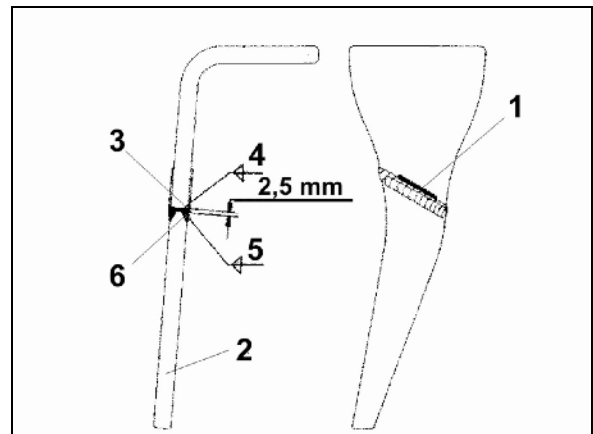

Fig. 61
2. Cut the old tine on the mark (Fig. 61/1).
3. Attach the tip to be welded (Fig. 61/2) on the tine stump, solder with root of the seam (Fig. 61/3) and let the tine cool.
4. After the covering layer welding (Fig. 61/6) the tine is again ready for use.